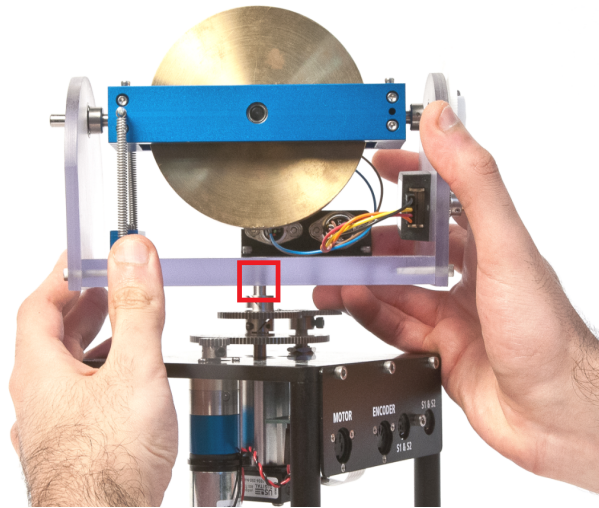

Figure 4.1: Attaching the GYRO-E module to the SRV02 output shaft
2. Place the gyroscope module on top of the SRV02 plant such that the servo output shaft inserts the hole on the bottom platform of the gyroscope module and it can freely rotate about the shaft. This is depicted in Figure 4.1.